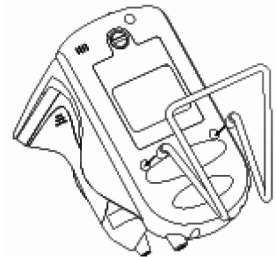

Figure 4
- Figure 4
- 4) Fixing Holder (figure 4).